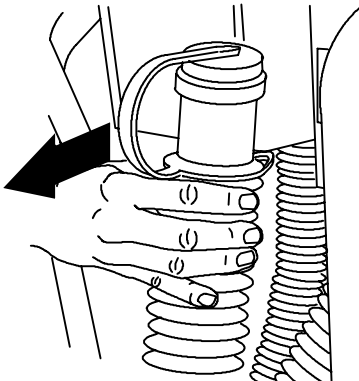

FIG. 57
1. Drain and clean out the recovery tank (Figure 57).